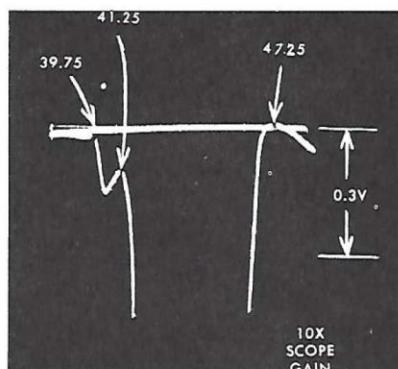

Fig. 6 Expanded View of Traps
6. Refer to Fig. 6 and 7 and adjust the 39.75 Mc 41.25 Mc, and the two 47.25 Mc traps for minimum marker amplitude. (16E20 and 16E25 chassis have one 47.25 Mc trap.) It can be seen that high oscilloscope gain must be used to "run" the response off the screen in order to view a "blow up" of the traps.